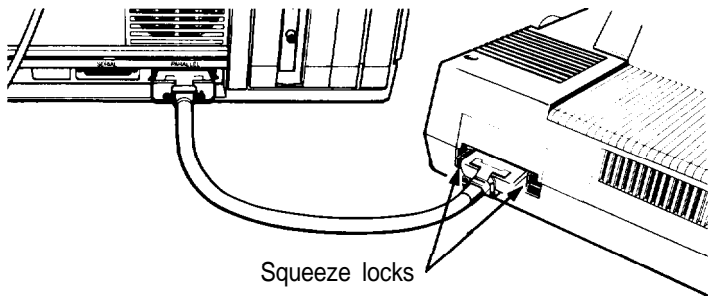

Figure 1-10. Connecting the printer
4. Connect the other end of the cable to the printer. To secure the cable, tighten the squeeze locks at each side of the printer port and into the connectors on each side of the cable as shown in Figure 1-10.